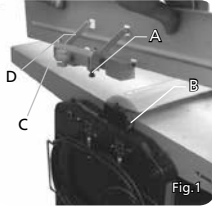

Fig.2
- Tighten clamping screw, Fig. 2.